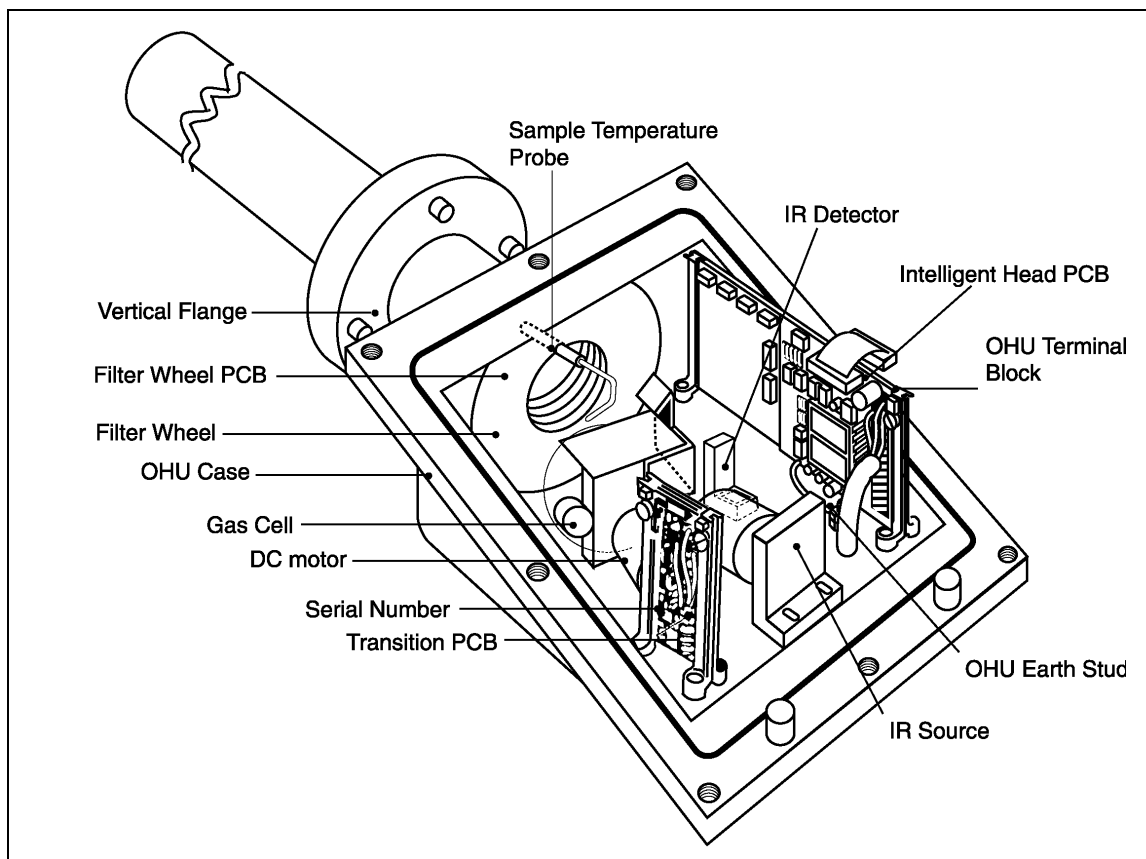

Figure 2-3 PULSI 200LR Optical Head Unit with cover removed
- 4 You will see the inside of the OHU as shown in Figure 2-3.